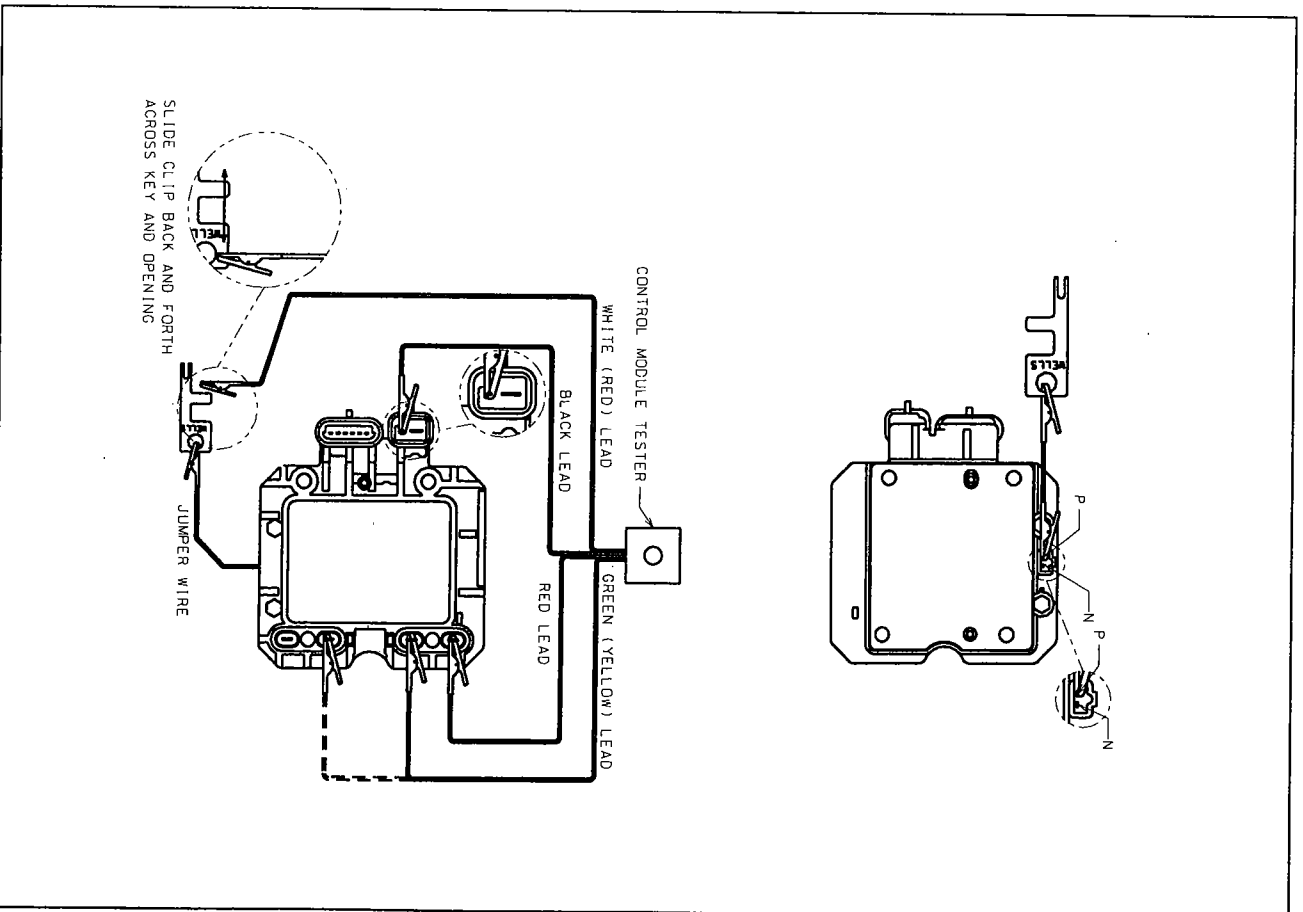

Fig. 12 (Typical example: Wells #DR144)
1. To line the pins properly, hold the module in the same position as shown in Fig. 12.